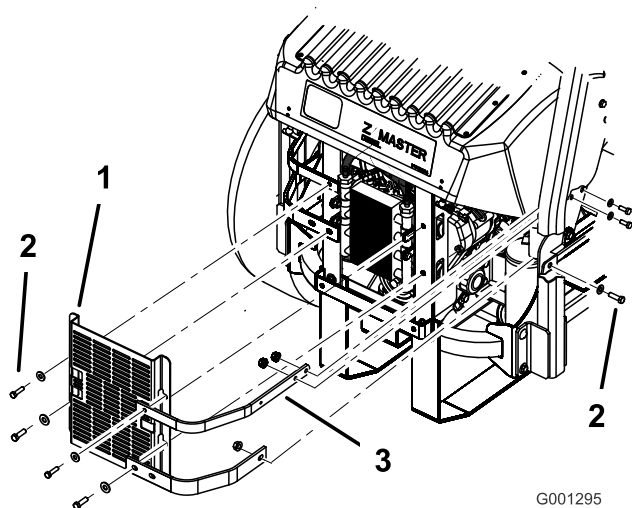

Figure 74
3. Remove the 4 bolts holding the oil cooler shield to the rear frame (Figure 74).
4. Remove the 3 bolts holding the engine straps to the side of the machine (Figure 74).
12. Install the oil cooler shield and engine straps to the rear frame with the 4 bolts previously removed (Figure 74).
13. Install the engine straps to the side of the machine (Figure 74).